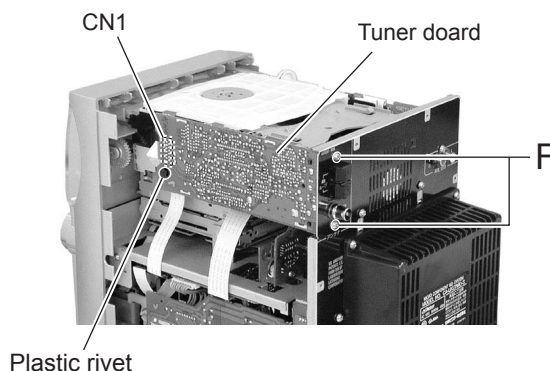

Fig.12
2.1.4 Removing the tuner board (See Fig.12.)